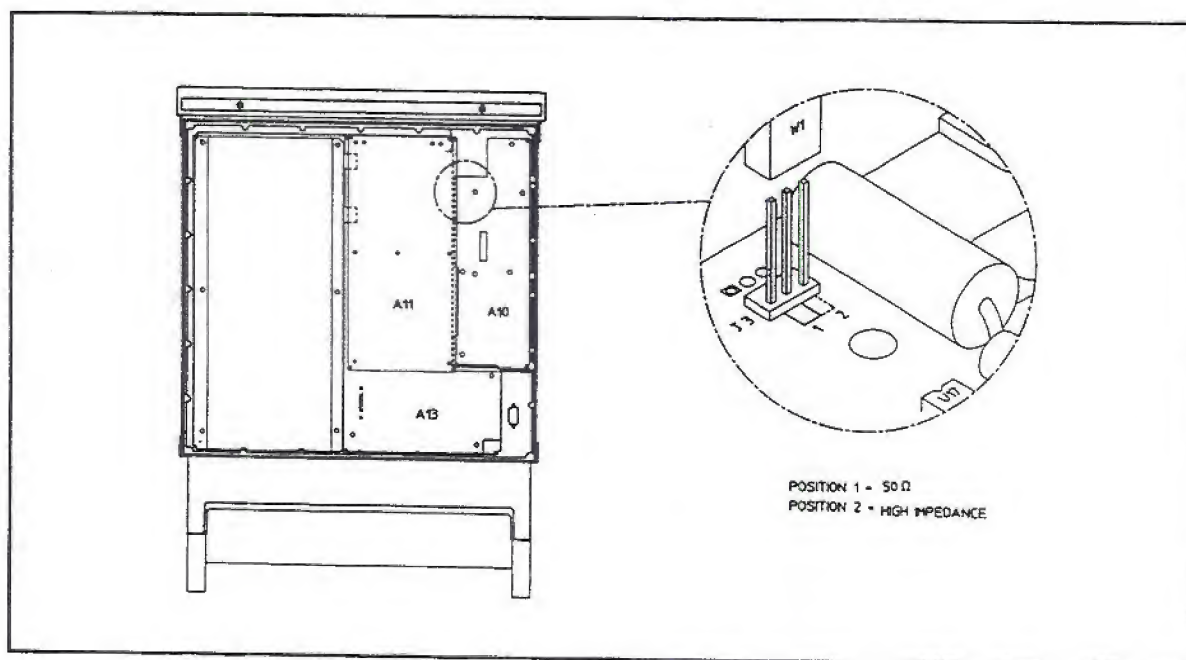

Figure 2-6. Pulse Modulation Input impedance selection
- c. Refer to Figure 2-6. Locate the selection link W1. When this is set to position 1, the input impedance is set to 50 ohms; when it is set to position 2, the input impedance is set to high impedance. Set W1 into the position you require.